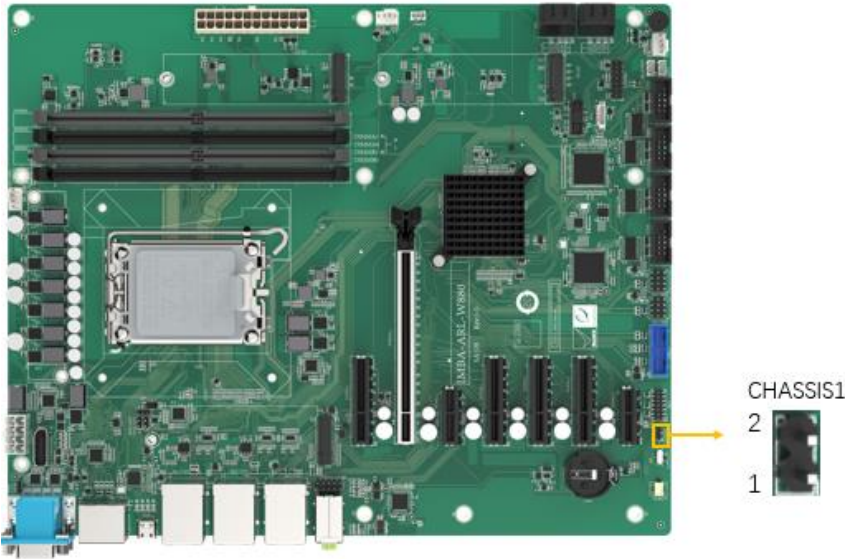

Figure 3-4: Chassis Intrusion Connector Location
- CN Location:**See Figure 3-4